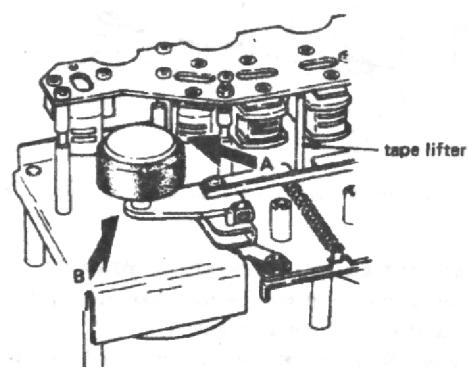
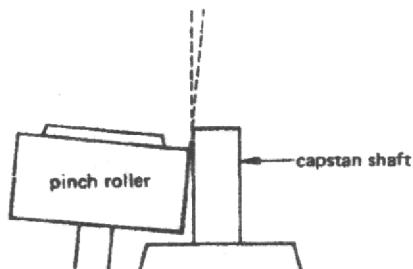

Fig. 2-15 Directions for pinch roller parallelism check
Fig. 2-16 View in direction A (example of non-parallelism)
- Let pinch roller draw near toward capstan shaft by manually lifting up tape lifter shown in Fig. 2-15.
- Check pinch roller/capstan shaft parallelism viewed from direction of arrow A shown in Fig. 2-15. Refer to Fig. 2-16.
- Remove pinch roller, then push up tape lifter to visually align pinch roller spindle with the capstan shaft viewed from direction of arrow B in Fig. 2-15.